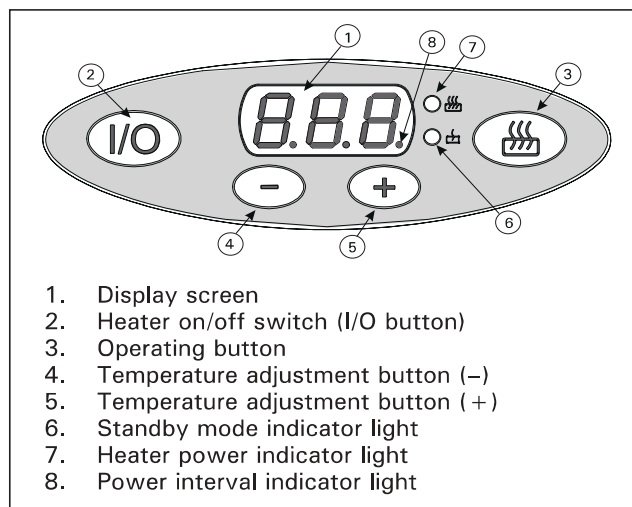

Figure 2. Control panel
When the operating button is used to set full heater capacity (HI), the heater temperature is set to 500 °F (260 °C). This temperature cannot be set using the temperature adjustment buttons 4 and 5 (fig. 2). If the heater cover is closed while the heater operates at full capacity, the pre-set temperature of the stone space 500 °F (260 °C) can be achieved more quickly.
To switch the heater on, press the I/O button. To indicate that current has been connected to the heating elements, the display shows the message LO (standby power). In addition, indicator light 6 (fig. 2) is lit up. The temperature of the stone space can be set to a maximum of 500 degrees Fahrenheit (260 degrees Celsius) by pressing the + button 5 (fig. 2). The minus button 4 (fig. 2) is used to lower the temperature if it has been set too high.
The electric power consumption of the heater can be monitored using indicator lamp 8 (fig. 2). See the section “Display screen.”
To switch on to full capacity, press the operating button 3 (fig. 2) once. The display screen 1 (fig. 2) indicates that the HI state (= full heater capacity) is in use. In the HI state, the stone space temperature increases towards the set value of 500 °F (260 °C). Full capacity is switched on for only one hour at a time, after which the heater automatically switches to the LO state with indicator light 6 burning (fig 2). After initial heating, the heater cover must be closed. If the stone chamber seems to emit odours, the cover can be left open for a while as the heater operates at full capacity (HI).
displayed on the screen for a while as an indication of the higher power and the indicator lamp 7 glows (fig. 2).